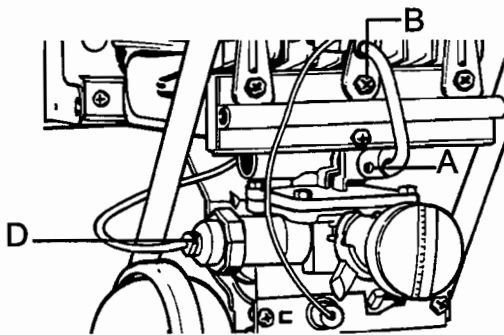
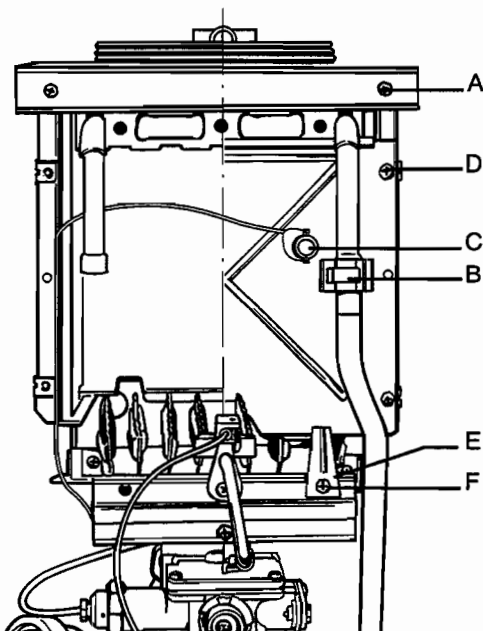

Fig. 13
Fig. 20
- a) Remove the thermal switch (c) by pulling forwards from its support bracket (see section 7.8 fig. 20).
- b) Disconnect from thermoelectric valve (D).
- c) Remove pilot tube by loosening screw (A) and pulling forwards.
- d) Remove screw (B) top centre of burner manifold and pull pilot assembly forwards (see fig.13).
- b) Remove pilot tube by loosening screw (A - fig. 13) and pulling forwards.
- c) Remove the electrode in the pilot bracket by undoing and removing the screw (A) and sliding the retaining plate (B) out.
- d) Disconnect lead from the piezo unit cartridge (C).
- a) Remove two screws (A) holding the deflector plate in position (see fig. 20).
- c) Disconnect joints at junction where heating body joins heating body legs (B). (see 6.8).
- f) Remove the thermal switch (C) by pulling forwards from its support bracket.
- h) Remove brackets (E) which are retained by screws (F) onto burner manifold.
- i) Remove the four screws (D) which retain the combustion chamber front cover.
- e) Remove the manifold (G).
- f) Remove the two screws (F) which secure the burner to the chassis.
- g) Disconnect the thermocouple connection (H) at the gas control and manoeuvre the pilot bracket outwards.
- b) Remove pilot tube by loosening screw (A) (fig. 13) and pulling.